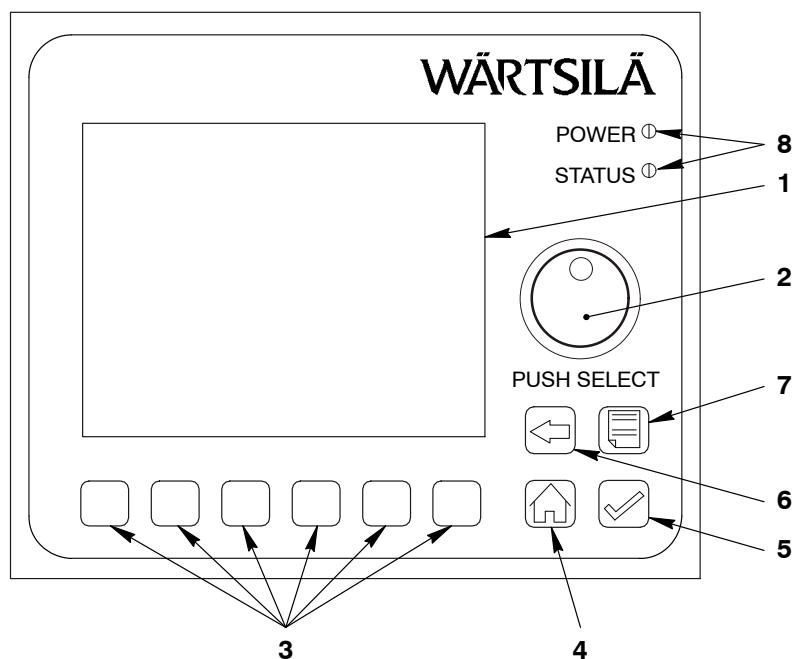

Fig. 2: LDU-20
The LDU-20 is a multi-purpose module that has an LCD color display (1, Fig. 2), ten multi-function buttons (3 to 7) and a rotary button (2). You can also push the rotary button to select a function.
- 2) To get/accept control to/from a different location, select the related on-screen button, then push the CHECK button (5, Fig. 2).